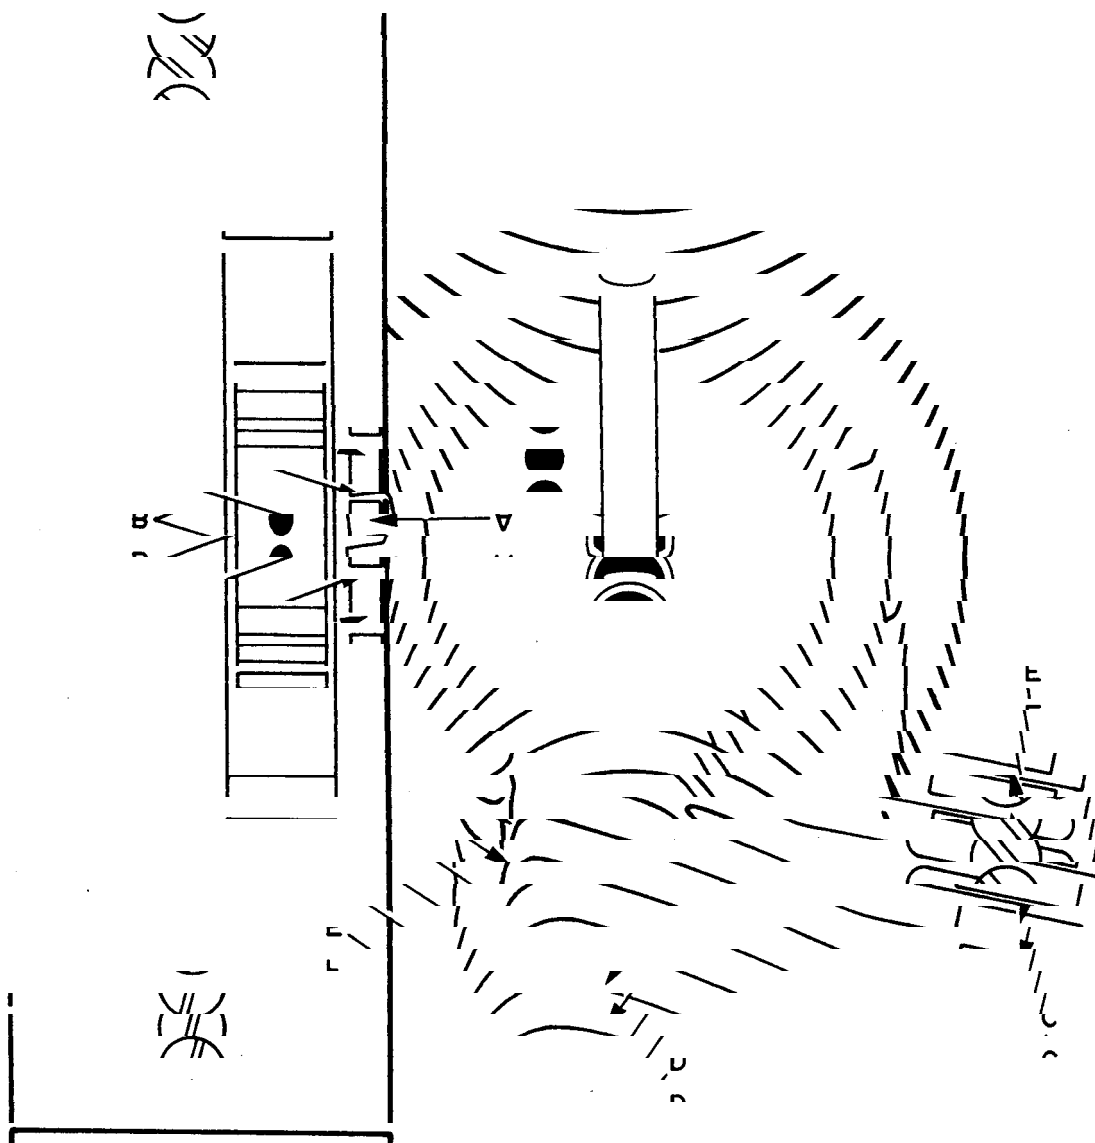

Figure 4-9.—Bobbin case area.
NOTE: Ensure the bobbin-case lug (figure 4-9 [A]) is properly engaged in its opening in the bottom of the throat plate (figure 4-9 [B]).
(figure 4-9 [A]) to press against the back of its opening. The bobbin-case opener moves the bobbin case counterclockwise to allow the thread to pass around the bobbin-case-opener lug. If the opener is adjusted too tight, damage to many parts may occur; and if the opener is not set tight enough, extreme upper thread tension may be necessary to lock the stitch properly. Adjusting the bobbin-case opener is accomplished as follows:
- a. Turn the balance wheel toward the operator until the bobbin-case-opener lever (figure 4-9 [C]) moves as far to the right as possible.
- b. If the bobbin-case opener (figure 4-9 [D]) has been removed, reinstall it at this time. Do not tighten the adjusting screw (figure 4-9 [E]) at this time.